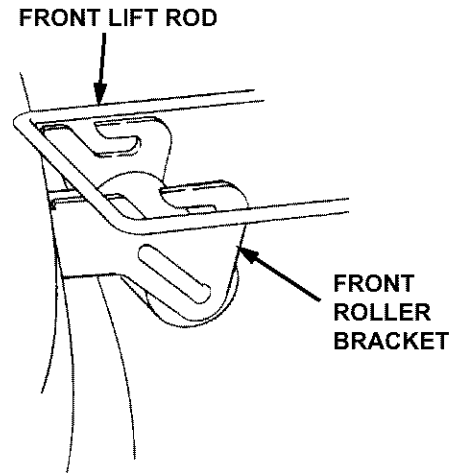

Figure 46
7. Raise the tractor implement lift handle to its highest setting, Slide the mower deck forward, so the front lift rod rests to the rear of, and free of, the front roller bracket slots of the deck (See Figure 46).